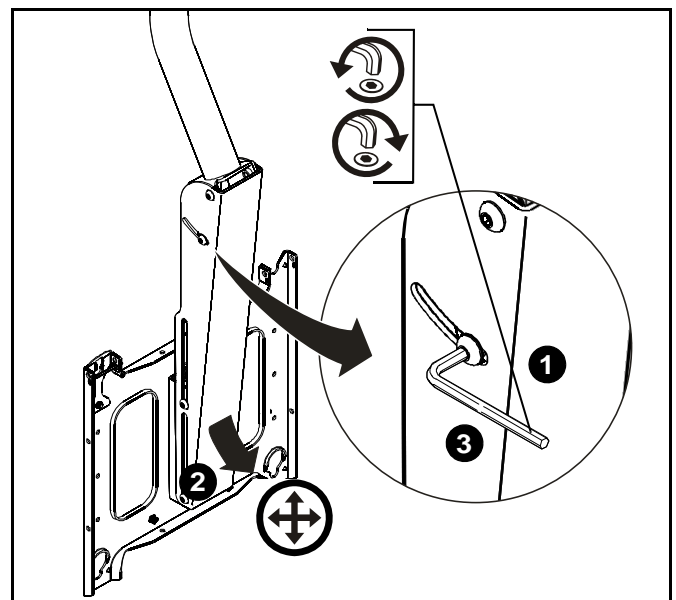

Figure 8
1. Loosen four 5/16-18 button head cap screws. (See Figure 8)
2. Adjust to desired tilt position. (See Figure 8)
3. Tighten four 5/16-18 button head cap screws. (See Figure 8)